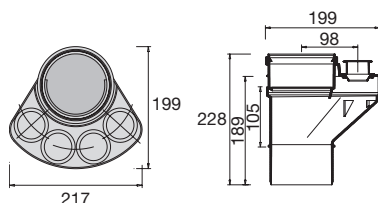

Fig.33a 419.4.15 Universal Soil Manifold
**Applicable to: 119P Universal Soil Manifold (Fig.33a)**